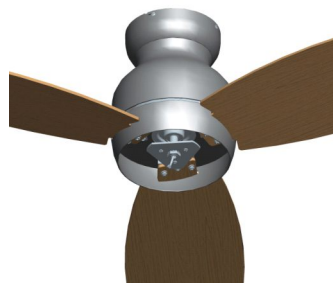

Fig 6.2
6.2 Repeat for the remaining blades. The installation of the blades is shown in the Fig 6.2.